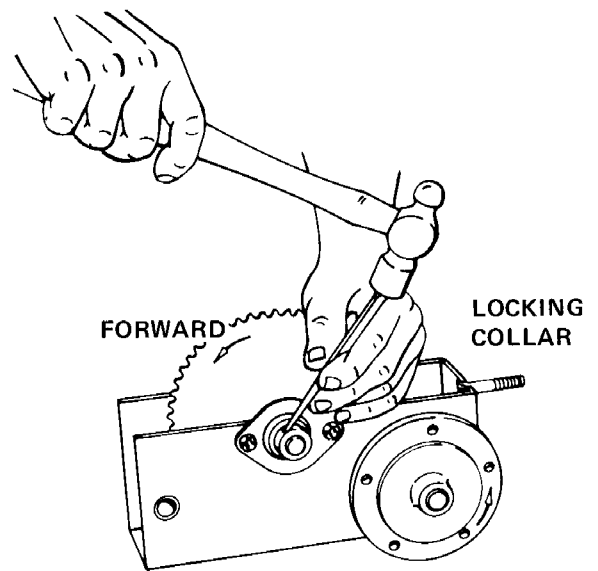

FIGURE 10
2. Mark the large sprocket (on intermediate shaft) and rubber wheel with a large arrow as illustrated in Figure 10.
- a. tapping lightly in direction SAME AS rotation of shaft when mower is moving in the forward direction. This is in direction of arrows marked in DISASSEMBLE SPROCKET HOUSING section. See Figure 10.